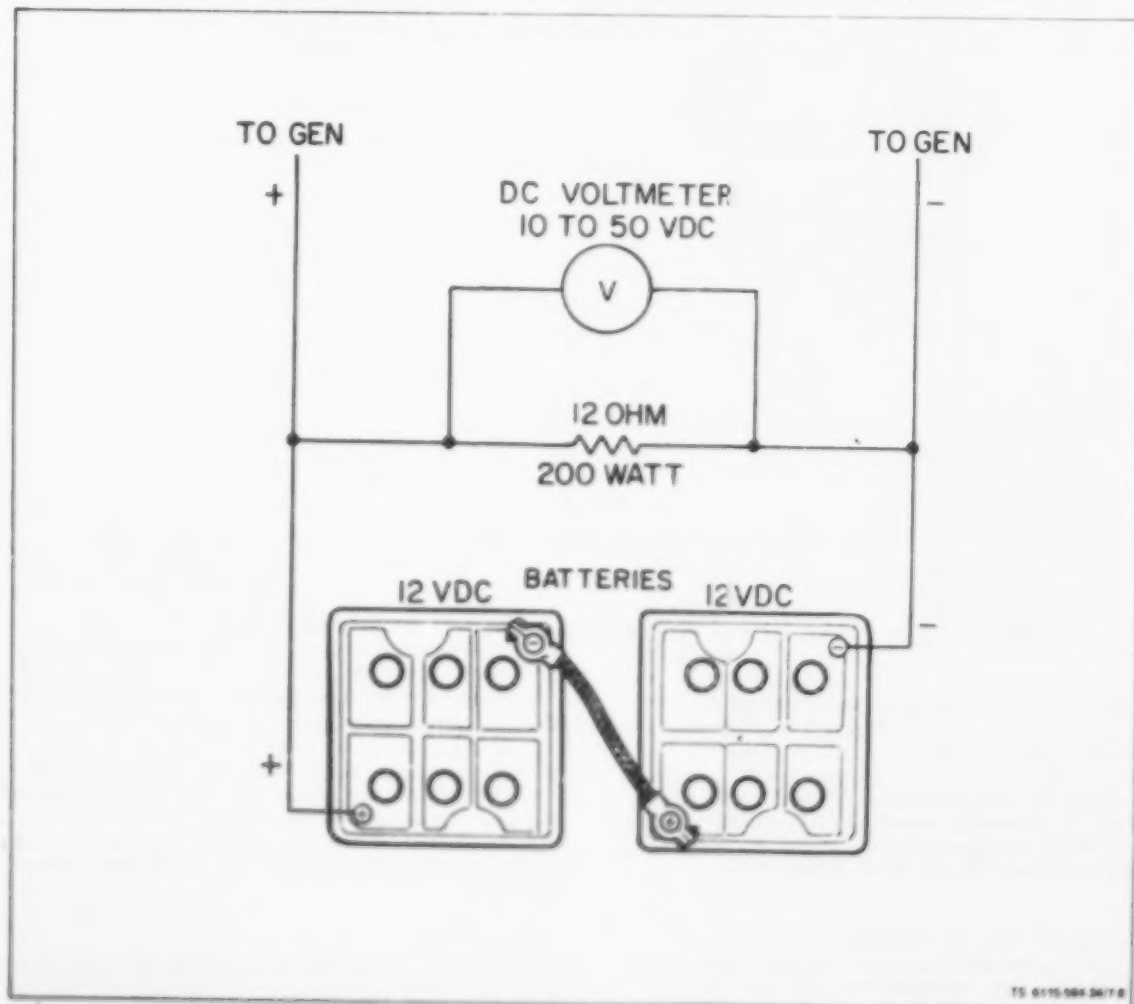

Figure 7-8. Resistively Loading the Batteries
(3) The flywheel (1) is a tapered fit on the crankshaft (2). Remove flywheel mounting screw (3) and washer (4). Support and remove flywheel and ring gear assembly by using a two pronged wheel puller inserted through the slots provided in the flywheel.
b. Clean and Inspect. Clean the flywheel and ring gear assembly (1) using solvent. Check the ring gear for broken or worn teeth.
c. Install. Replacement flywheels are supplied with timing marks already stamped in place. The engine must still be timed properly to this timing mark. The only accurate method of determining the port closing point is to measure piston travel. This is a critical measurement and should be done only with accurate, dependable equipment. Mount flywheel keying properly and tighten in place using screw (3) and washer (4), (figure 7-3) With the flywheel mounted, rotate flywheel counterclockwise until Number 1 cylinder is on its compression stroke, which follows the closing of its intake valve. Remove the exhaust rocker arm (3, figure 10), exhaust valve rotator (1, figure 7-11), valve lock (2), spring retainer (3) and spring (8), using fabricated tool (see figure 7-10). Allow exhaust valve to drop down onto top of piston. Rotate flywheel counterclockwise until piston is at Top Dead Center. This can be measured on top of exhaust valve stem with a dial indicator (see figure 7-8).
(1) Load the batteries with a 12 ohm, 200 watt resistor (see figure 7-8). Run the set at 60 Hz, 1800 RPM. The charge rate should be between 6.5 and 10 amperes.
(2) With generator running (60 Hz), disconnect batteries leaving 12 ohm resistor load in circuit to generator. The alternator should provide a dc voltage between 24 and 28.5 volts.